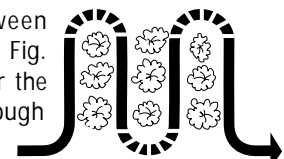

Fig. 4-8
- When cultivating (breaking up surface soil around plants to destroy weeds, see Fig. 4-8), adjust the tines to dig only 1" to 2" deep. Using shallow tilling depths helps prevent injury to plants whose roots often grow close to the surface. If needed, lift up on the handlebars slightly to prevent the tines from digging too deeply. (Cultivating on a regular basis not only eliminates weeds, it also loosens and aerates the soil for better moisture absorption and faster plant growth.)
With planning, you can allow enough room between rows to cultivate (see Fig. 4-8). Leave room for the hood width, plus enough extra room for future plant growth.